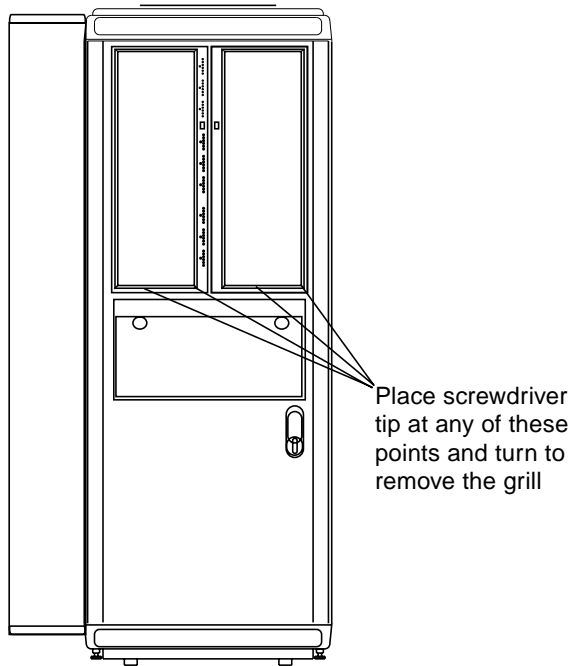

FIGURE 6-38 HDSA Front Fan and Grill Cover Location
2. If the fan to be replaced is in the front of the drawer, remove the fan grill cover. See FIGURE 6-38. Otherwise, go to Step 3.